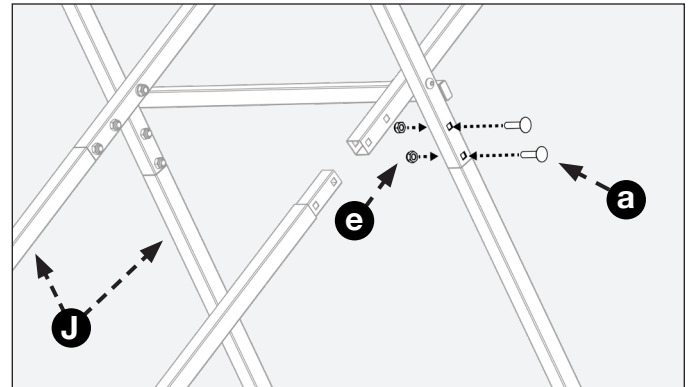

FIGURE 3
With assembled stand open, attach legs (J) to the stand using (eight) M8 x 35mm carriage bolts (a) and (eight) M8 lock nuts (e). Tighten lock nuts to secure legs to stand (Fig. 3.)